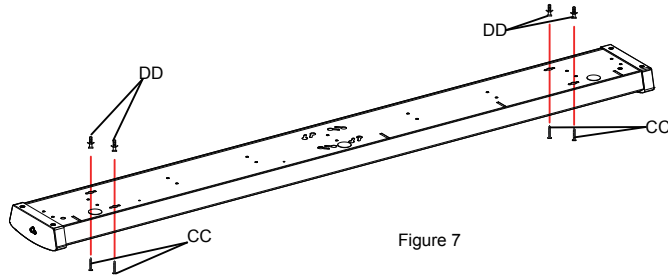

Figure 7
Drill a 1/4 in. pilot hole into the marked screw locations. Insert wall anchors (Parts DD). Start the screws (CC) but do not tighten fully. Slide the Housing (A) over until the narrow legs of the keyhole slots are under the heads of the screws (CC). Finish tightening the screws (CC) until they are firmly seated and the Housing (A) is tightly secured to the mounting surface. (Figure 7)